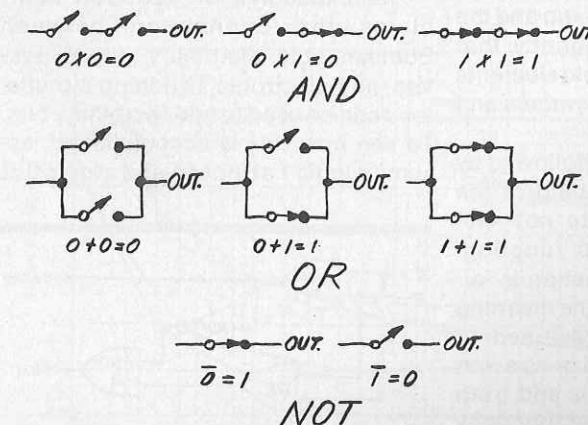
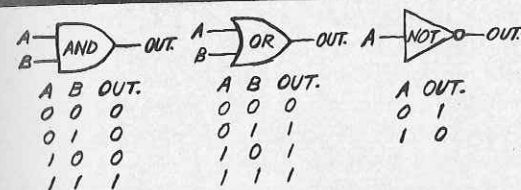

Fig. 1. Switches are arranged to illustrate three basic digital electronic functions.
Fig. 2. AND, OR, and NOT symbols are shown with truth tables.
The above definitions can be tabulated into a table such as shown in Fig. 1. Such a table is useful in showing the relationships among Boole's three logic functions and their electronic and arithmetic counterparts. This type of table is sometimes called a "truth table" since it sets forth the various logic conditions for which each statement is true. Generally, truth tables are arranged in a more compact form similar to those shown for the three basic logic functions in Fig. 2.
**Logic Symbols.** Boolean logic statements can be implemented by simply writing them on paper, using alphabetic symbols to correspond to "true" and "false" conditions. Electronic logic diagrams, however, are much easier to design and interpret if a sort of block diagram of the circuit is presented. For this reason, standardized logic-block symbols have been devised for the three basic logic functions. They are shown in Fig. 2.
**Practical Logic Circuits.** Figure 1 demonstrated how simple switching circuits can be used to implement each basic logic function. However, it is usually not practical to employ switches in real systems. Instead, transistors, SCR's, tunnel diodes, or other solid-state switches are employed.